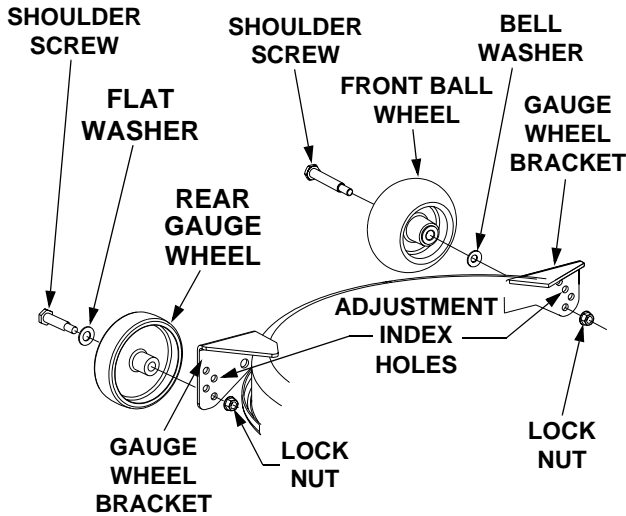

Figure 37
To adjust the height of the gauge wheels, place the tractor on a firm and level surface. Refer to Figure 37, and proceed as follows:
1. Position the tractor and mower deck on a firm, level surface. Raise the gauge wheels to their highest setting in the gauge wheel brackets (Refer to Figure 37).